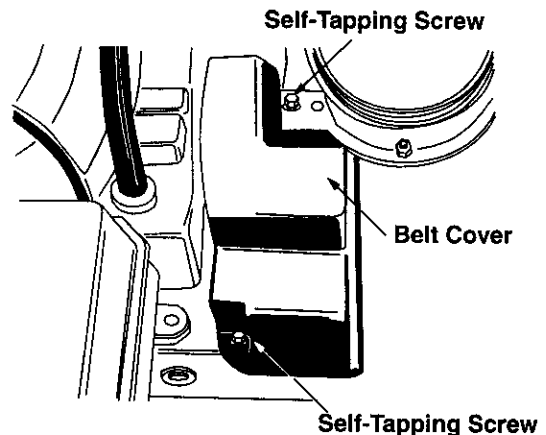

Figure 24
- Remove the plastic belt cover on the front of the engine by removing the two self-tapping screws. See Figure 24.